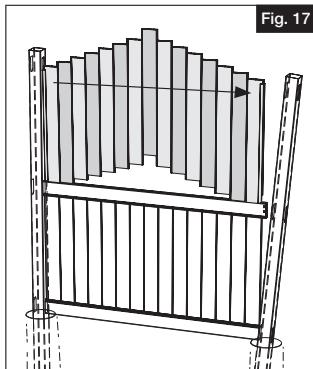

Fig. 17
- b. Insert top boards into middle rail ensuring U-Channels are on both ends. Start from first installed post and work towards second post (Fig. 17).